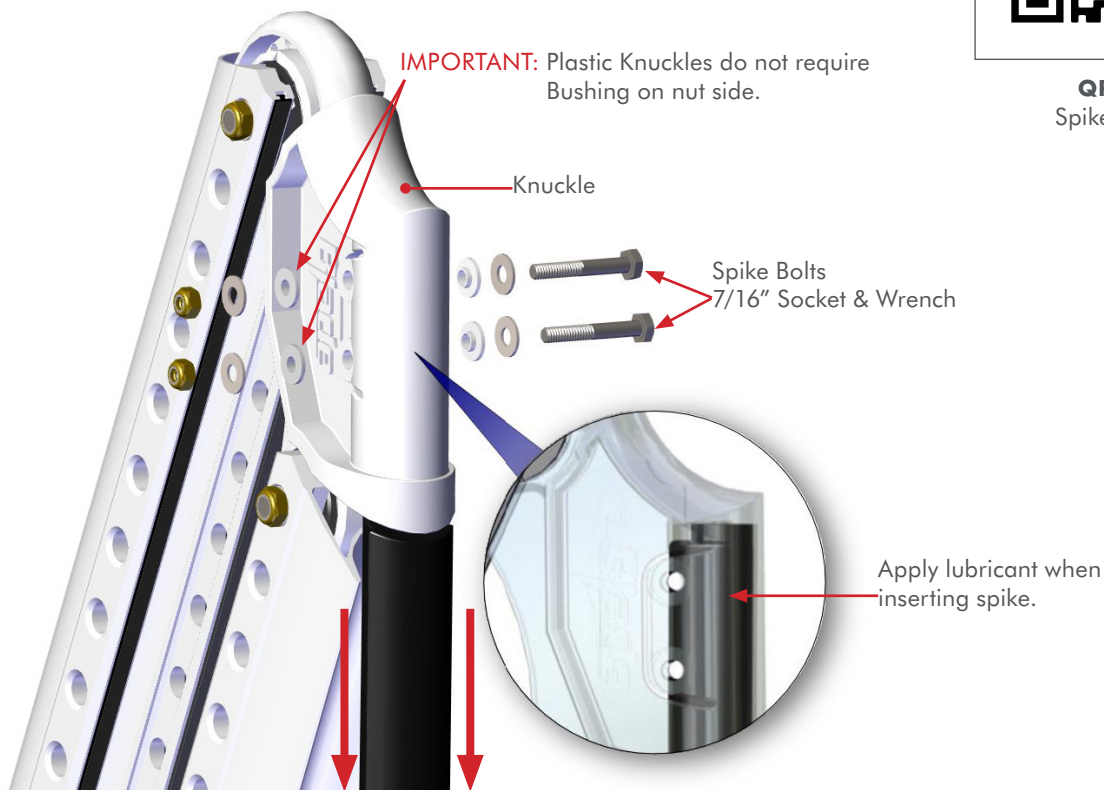

Figure 1
STEP 1 Remove both **Spike Bolts** and all mounting hardware using a **7/16" Socket & Wrench**. **FIG 1**
STEP 2 Reinstall the mounting hardware and tighten the **Spike Bolts** snug. **FIG 1**